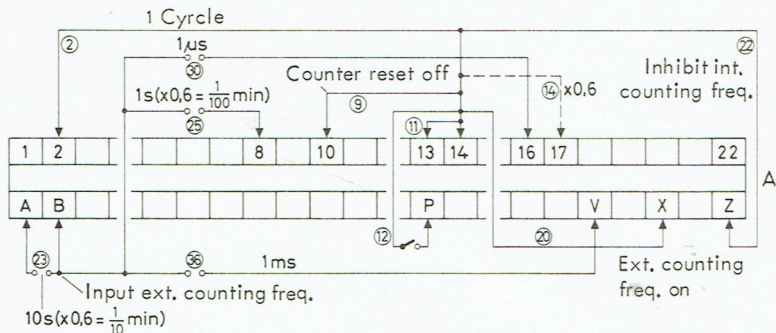

Bild 3-23
With the programming shown in Fig. 3-23 the pulses of the internal quartz oscillator can be fed in to the counter directly or after attenuation. Thus one has a digital clock which displays the periods of time in ms, s or fractions of a minute. Connection of P to 14 sets the clock in motion, disconnection stops it, without resetting either during closing or during opening.
As a result of programming in accordance with Fig. 3-23 the storage is switched off when connection P-14 (12) is closed, so that every change in the counter content appears at the digital output (contact board B). Thus the counter provides periodic time signals which can be used for signal emission or for triggering external measuring operations. It should be noted that the pulse duty factor is 1 : 1 or 1 : 4 and that the duration of the signals increases with increasing time interval.